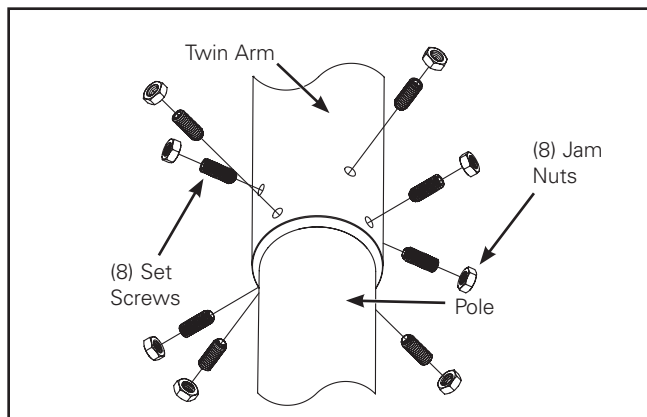

Figure 11.
4. Install eight 1/2-13 x 1-1/4" set screws to hold arm to pole and tighten to 300 inch-lbs. (Figure 11.) Install eight 1/2-13 jam nuts onto the sets screws and torque to 325 inch-lbs.